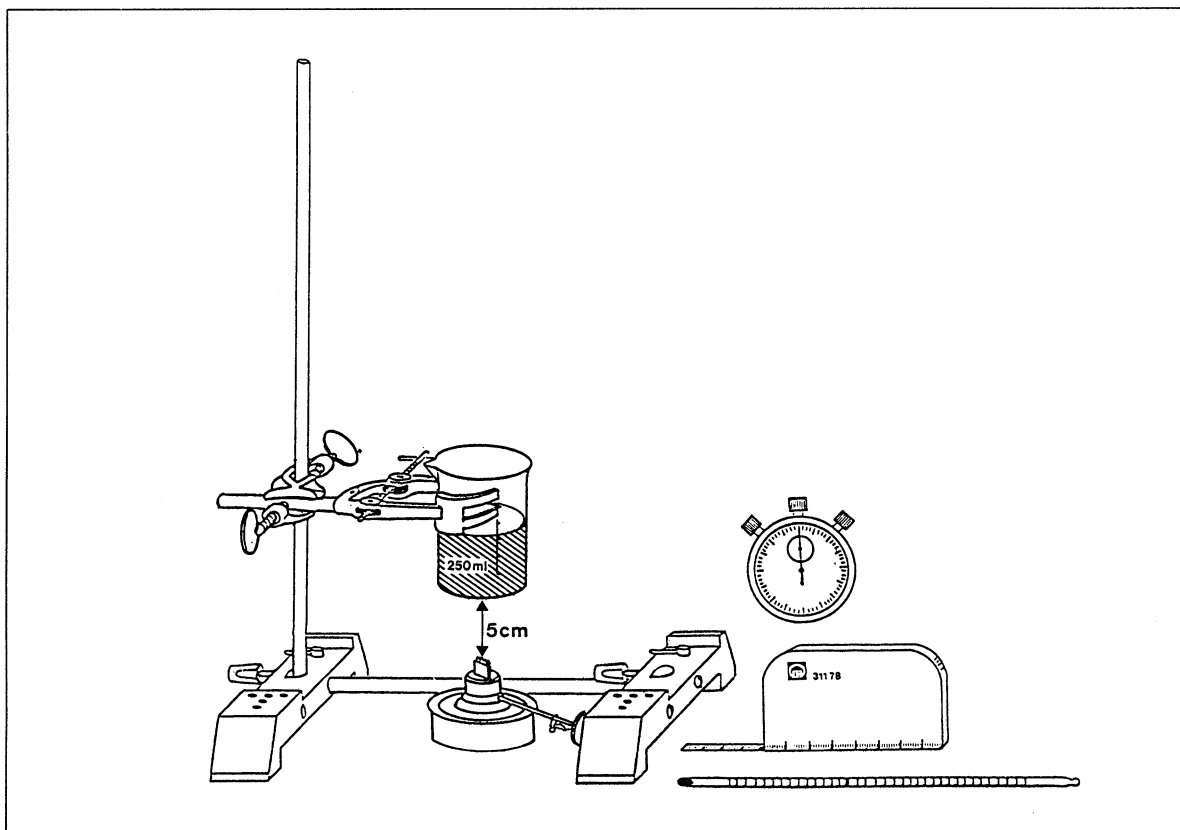

Fig. 1 Setup for investigating temperature rises in liquids.
1. Set up the stand as shown in fig. 1. Attach the double socket and apparatus clamp.